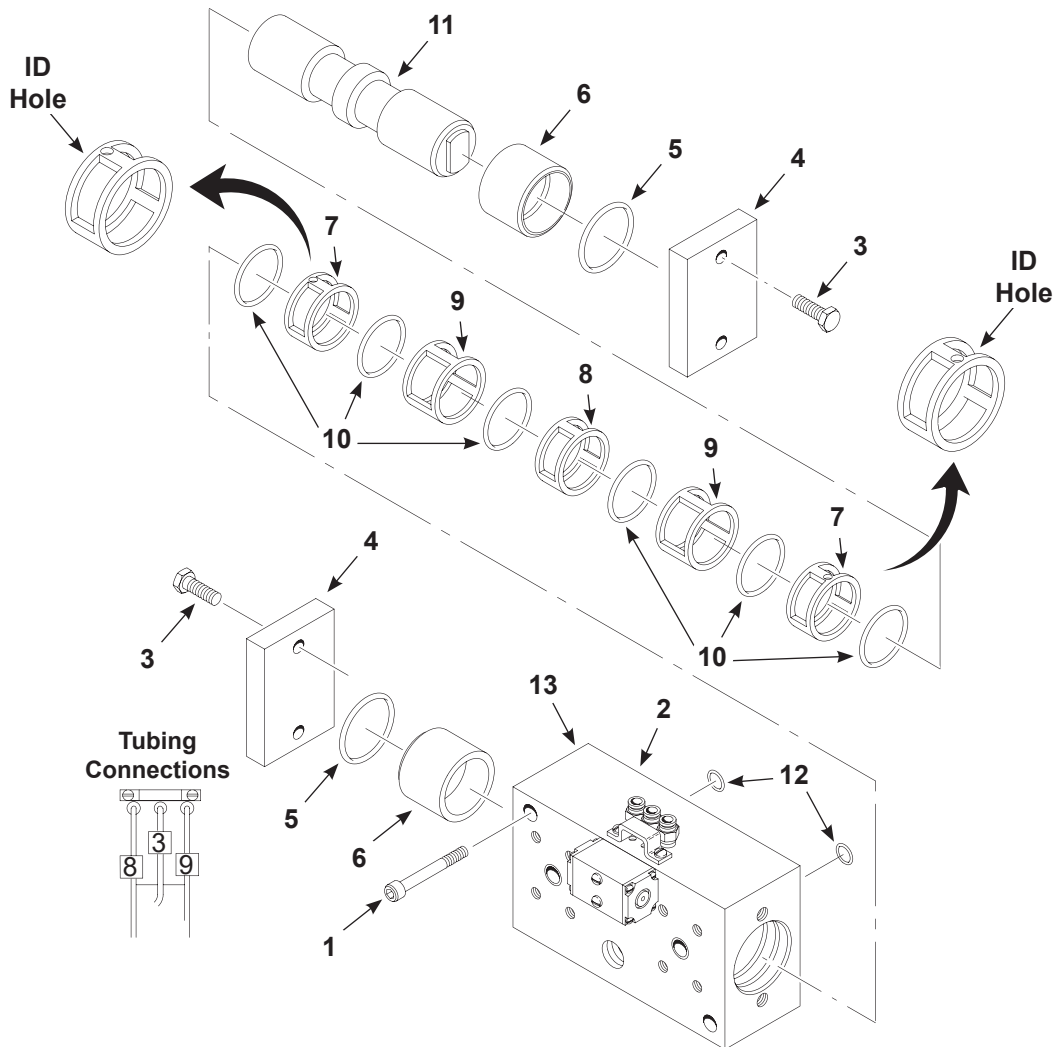

Figure 6-9 Air Valve Repair
See Figure 6-9. Use the Air Valve Repair Service Kit to replace items 1, 5, 10, and 12. Other parts can be ordered separately, as needed.